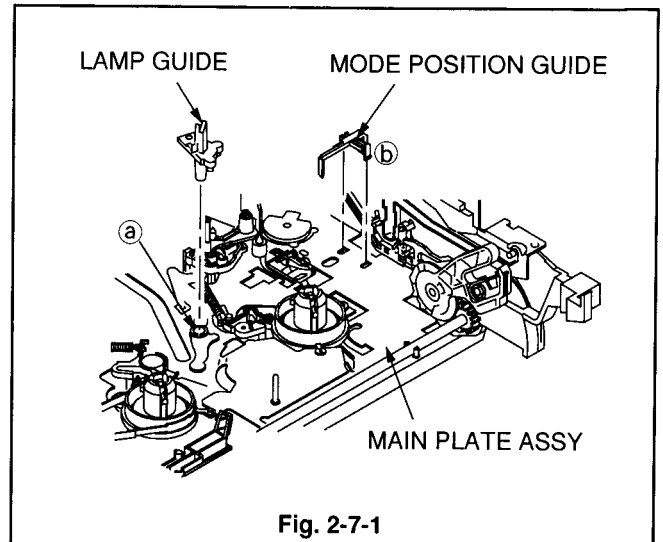

Fig. 2-7-1
- 1 Unfasten the catch (a) of the MAIN PLATE ASSY shown in Fig. 2-7-1 to remove the LAMP GUIDE.
- 2 Unfasten the catch (b) of the MODE POSITION GUIDE shown in Fig. 2-7-1 to remove the MODE POSITION GUIDE.
- 2 Install the MODE POSITION GUIDE shown in Fig. 2-7-1.
- 4 Install the LAMP GUIDE shown in Fig. 2-7-1.